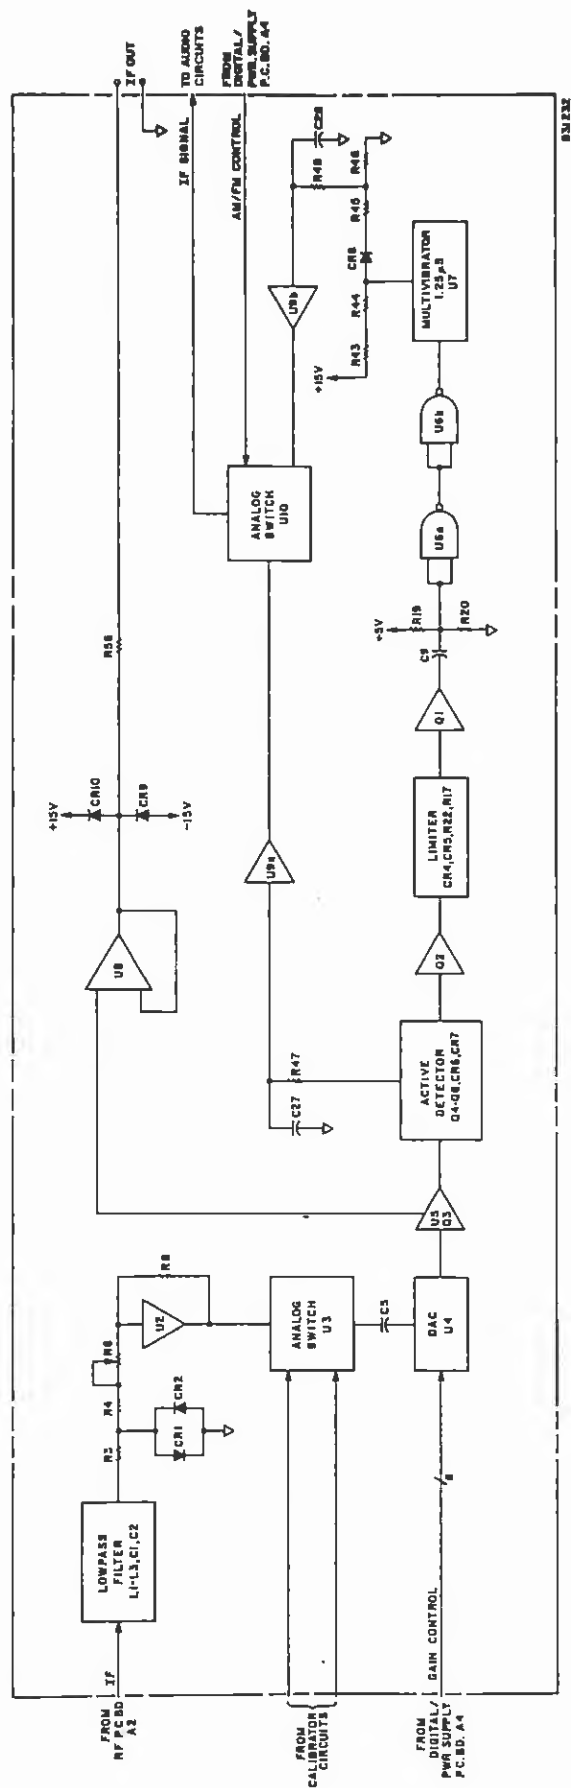

Figure 3-4. I.F. Circuits: Detailed Block Diagram
- (6) The sampling pulses are generated by the step-recovery diode CR3, amplifier Q1, and transformer T1. Initially, diode CR3 is forward biased from the +5 volt supply through R5. U1a generates a narrow pulse from the output of the counter. This pulse, amplified by Q1, drives the step-recovery diode into reverse conduction; however, CR3 does not "open" until all of its stored charge is depleted. At that time the diode recovers and produces a large narrow pulse, which is coupled to the sampling bridge through T2, a balun transformer. The output of T2 is two nearly equal opposite-polarity pulses. If the two pulses were exactly equal and opposite, they would cancel one another at the input and output of the sampling bridge. Since such equality is never the case, however, R14 is adjusted to null the bridge-input signal--and thereby the signal fed out of the RF IN connector.
- (7) Frequency acquisition occurs in the following manner: If no carrier is present at the input (RF IN), the discriminator level indicates that the frequency is high. The integrator ramps toward the negative supply rail until it has exceeded 11 volts. At that time the integrator is reset to 0 volts, the integrator attenuator is bypassed, and the count-modulus of the band counter is changed. This process continues until a carrier signal is applied to the RF IN connector.
- (8) When a carrier is applied, an i.f. signal will be produced at a frequency that is between zero and one-half of the sampling rate. This signal is hard-limited, then applied to a discriminator which, in turn, causes the integrator to move toward one or the other of the supply rails--depending on whether the i.f. is high or is low. If a valid 400 kHz i.f. is produced the integrator stops, and the by-pass of the integrator attenuator is removed. If no valid i.f. occurs, the integrator output will eventually exceed either +11 or -11 volts. Then the integrator will be reset, and the band-counter modulus will be either increased or decreased. In this way, all possible input frequencies can be made to produce a valid i.f.
- (9) The capture performance of the system is determined principally by the limiter's gain and the bandwidth of the sampler. Weaker signals at the r.f. input (non-harmonically related to the signal of interest) will be suppressed, since the largest signal present will drive the limiter to a low-gain state. These weaker signals will appear as f.m. sidebands at the output of the limiter.
b. I.F. Circuits. The i.f. circuits recover the a.m. and f.m. signals from the frequency-shifted input signal. These circuits also provide a sample i.f. signal to the front-panel IF OUT connector; in addition, for a.m. measurements, they provide a d.c. signal proportional to the i.f. level. (Refer to Figure 3-4, a detailed block diagram of the i.f. circuits.)
- (1) The 400 kHz i.f. signal from the r.f. circuits is connected to amplifier U2 through a low-pass filter that consists of inductors L1 through L3, capacitors C1-C2, and resistors R3, R5 and R6. Variable resistor R5 reduces the filter's amplitude-response variations, which are due to component tolerances. It is adjusted so as to give minimum a.m. indication when an f.m. signal is applied. Amplifier U2 has a closed-loop gain of four (approximately), as determined by